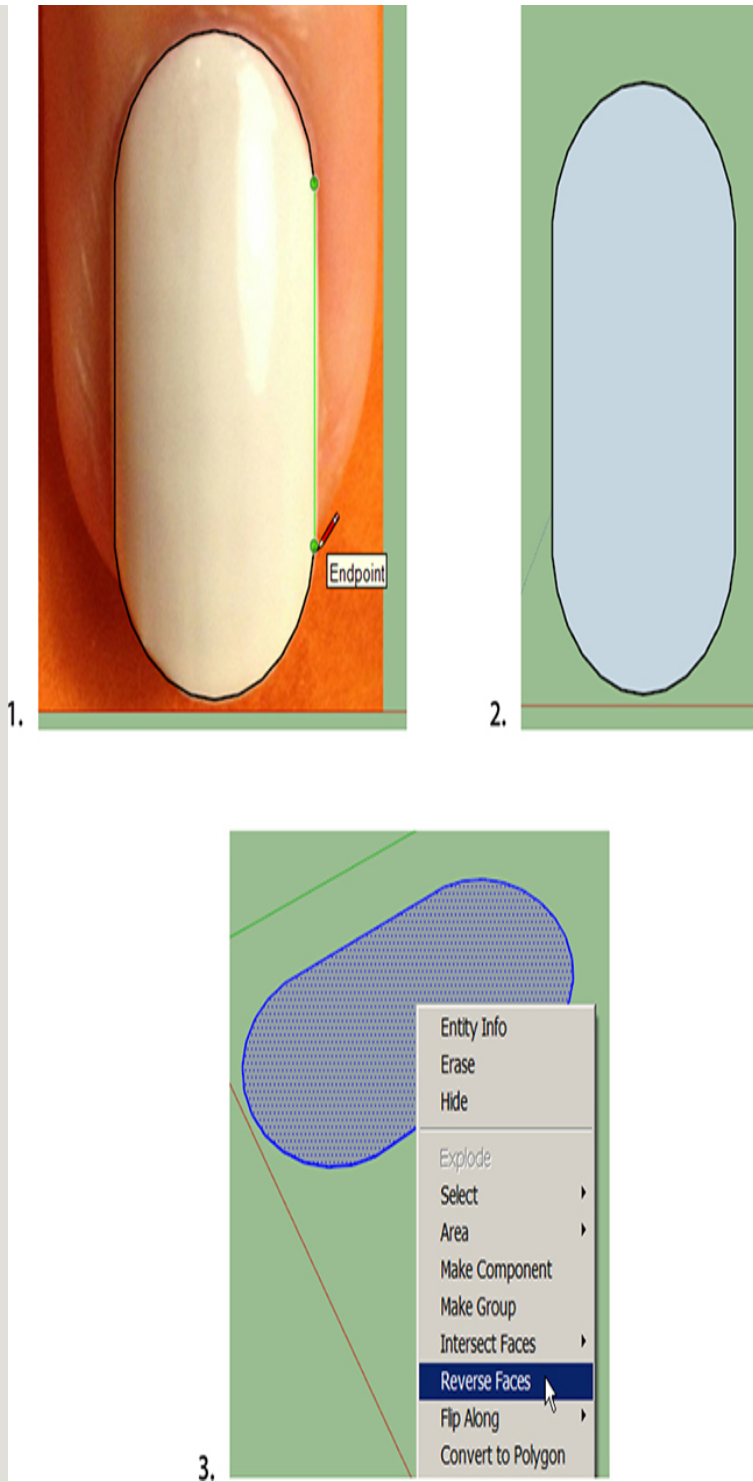

Figure 4-28 Finish the nail's shape, and reverse faces if needed, so that the white face is on top.
4. Draw the nail's other side to finish the shape (Figure 4-28). A face will form. If the blue side is up instead of the white side, select the whole nail, right-click, and choose Reverse Faces.